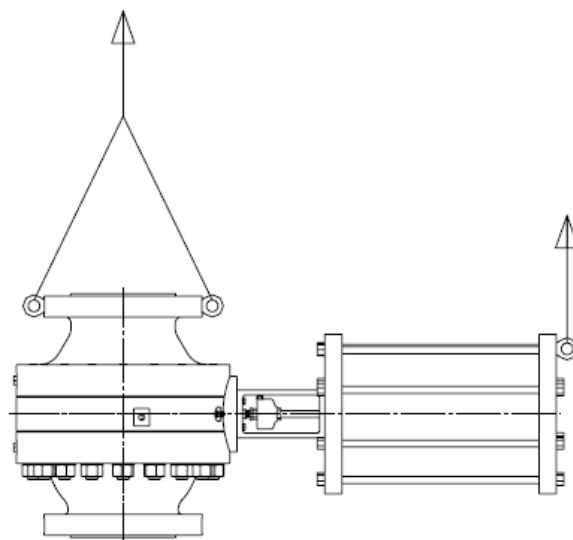

Figure 2.0 - Preferred lifting arrangements when the valve assembly is packed in the Horizontal position.
5.2.2.3 Prior to lifting the valve and Actuator assembly, ensure that the lifting slings are threaded through the Actuator lifting points for stability. Refer to Figure 2.0 which illustrates the preferred lifting technique.